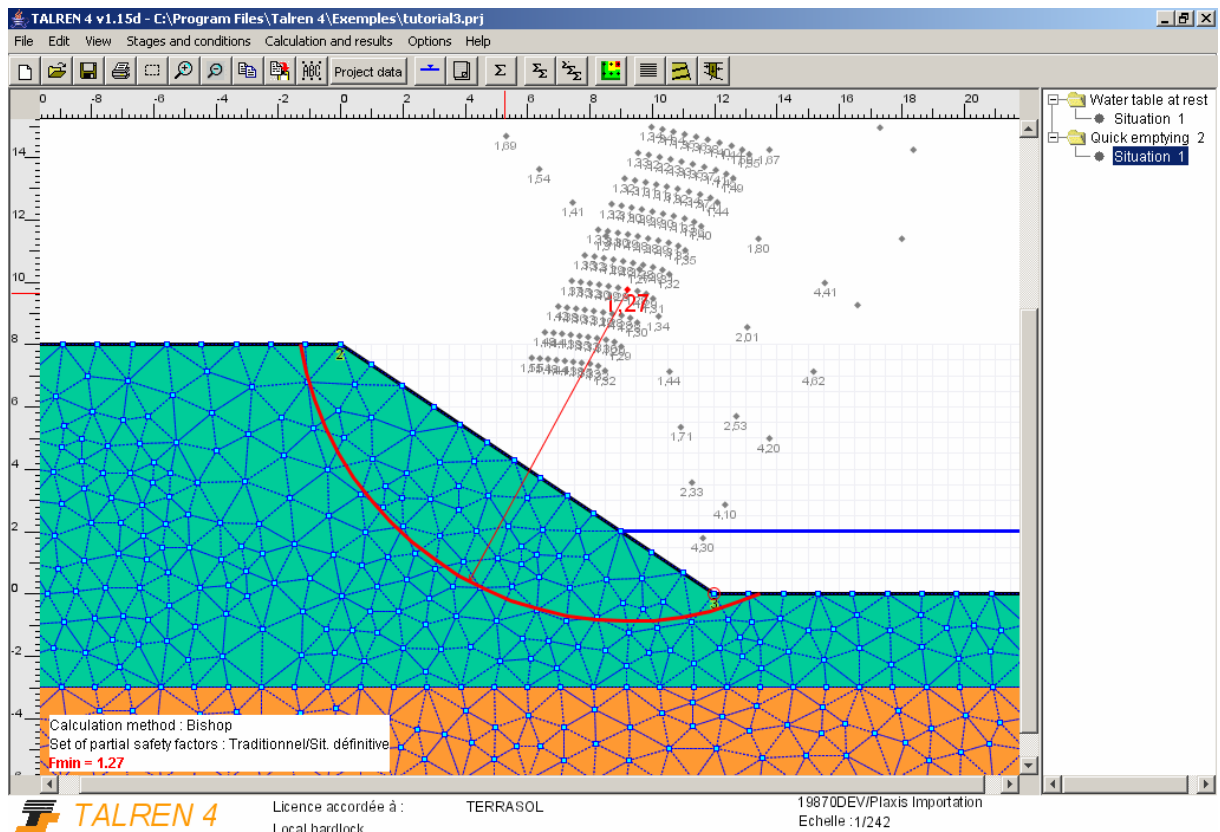

Figure 77: default output for situation 1 of stage 2
- Calculate the situation of stage 2 (the calculation is longer than for stage 1, because of the hydraulic mesh). The result is displayed on Figure 77.